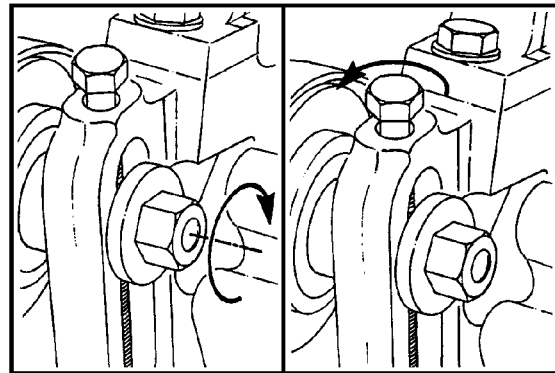

Figure 6.5-18
3. Secure the idler pulley in position by tightening the lock nut to 50 ft/lb (70Nm) as shown in Figure 6.5-18.
4. Loosen up the adjusting screw 1/2 turn to prevent breakage (Figure 6.5-18).